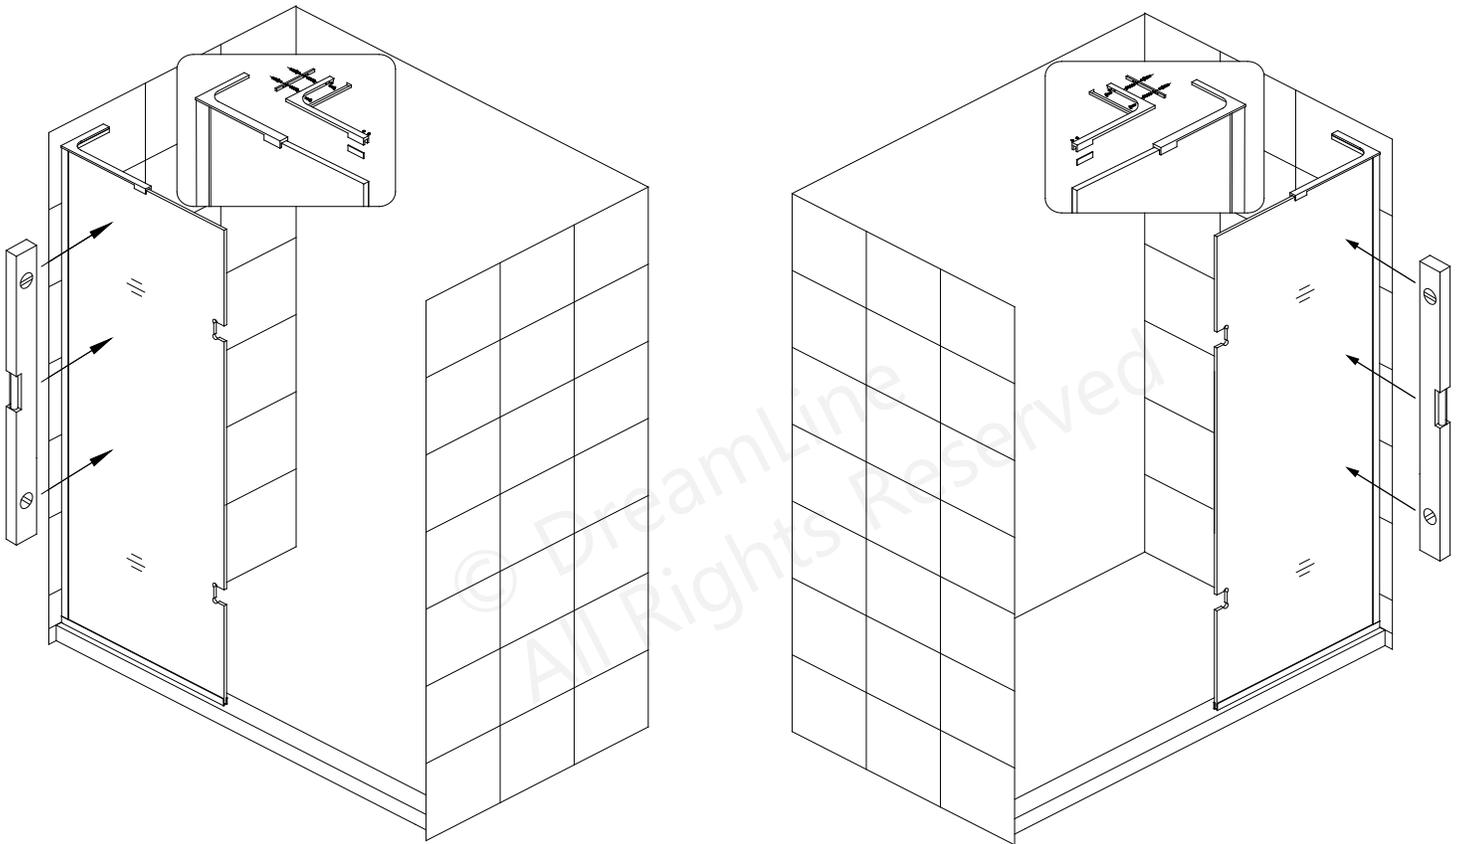

**Fig 17**
**Note** that the **Flat Head Screws M5x14 (#35.8)** must be loosened to allow adjustment with the set screws and then retightened after adjustment. **(Fig 17)**